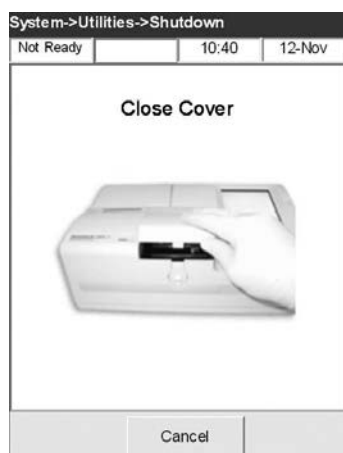

Fig. 6-58 Close Cover
10. Close the SMC cover (Fig. 6-58).